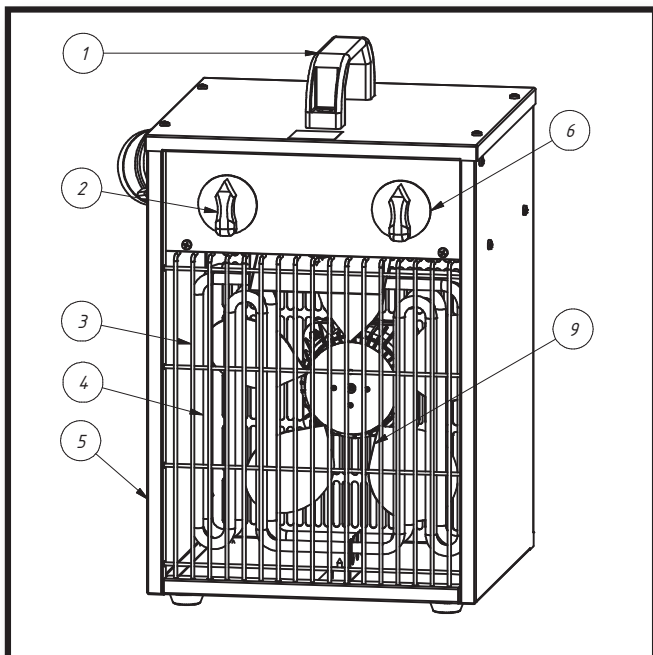

Fig. 1
- Transport the heater using the lifting eyes No. 1 shown in Figs. 1, 2.